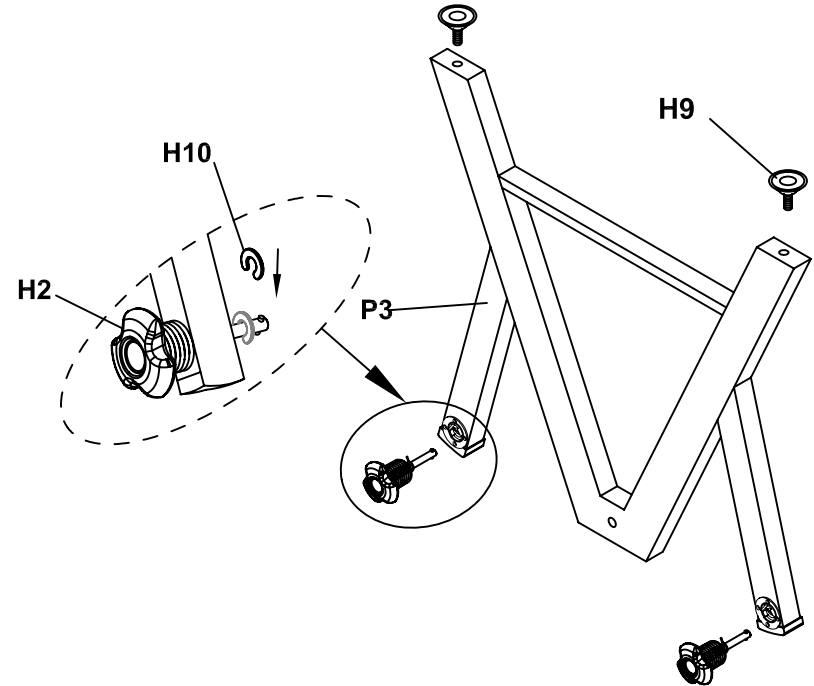

FIGURE 2
3. Push the lock knobs **H2** through the holes in the leg assembly. Once the lock knob is through, attach one lock collar **H10** to each knob as shown; Attach the leg levelers **H9** to the leg assembly **P3** as shown in **FIGURE 2**.